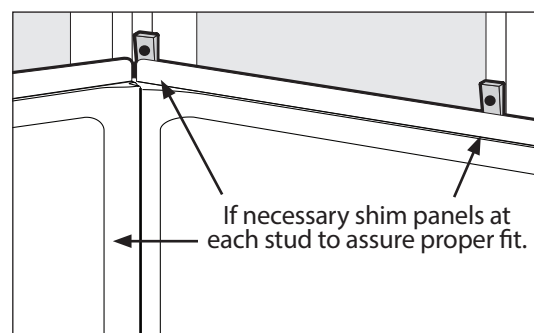

FIGURE 6. You can shim against the stud.
- d. If necessary, shim between panels and studs to provide a tight fit between the back and side panels. (Fig. 6)